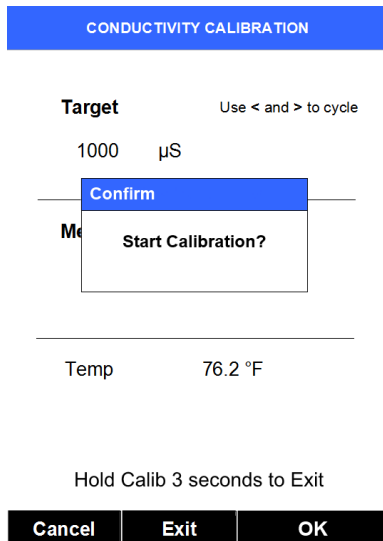

Figure 12
- 7) Press OK key (labeled Calib) to confirm the specific Conductivity calibration desired. The screen will update as in Figure 12.